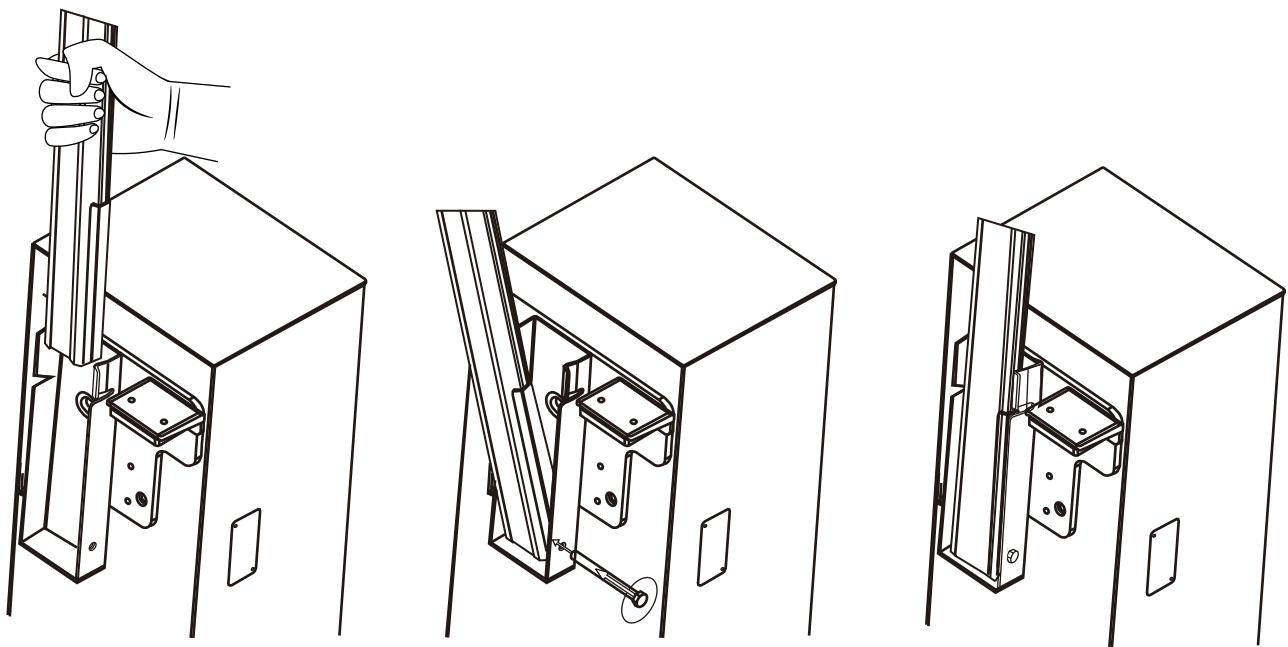

Figure 3
(3) Assemble the 4.5 meters boom arm into the shell of rod that is on boom barrier motor. Then fasten the bolts on the shell as the Figure 3.